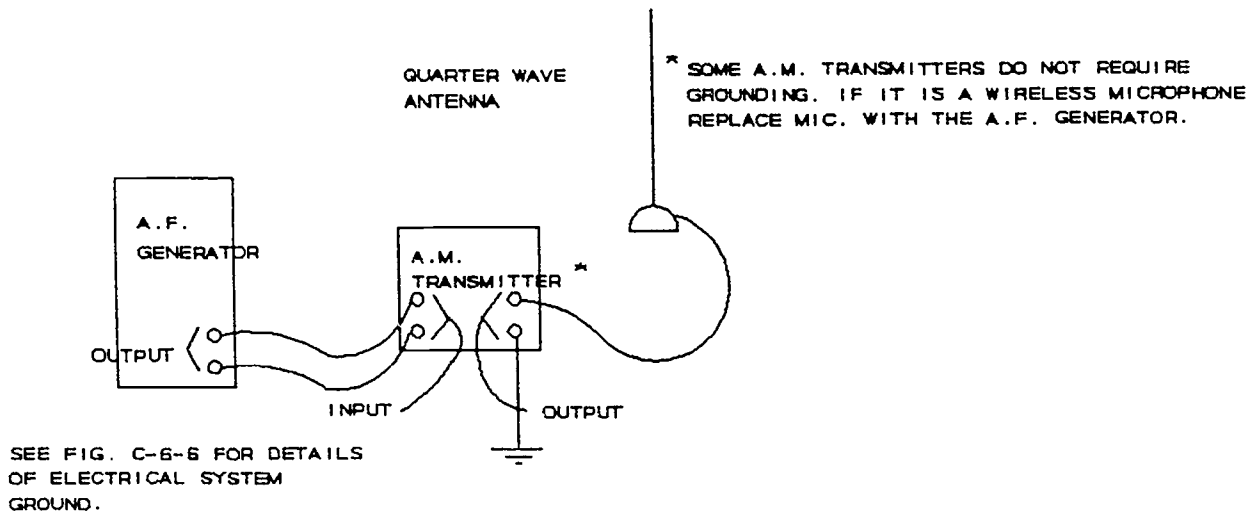

Figure C-6-5
1. Connect the audio frequency (AF) generator, amplitude modulated (AM) transmitter, and the vertical quarter wave (Marconi) transmitting antenna as shown in Figure C-6-5, "A.M. Transmitter Hookup." Also see Figure C-6-6, "Plug for Electrical System Ground." Note that when this plug is inserted into a standard power receptacle, the electrical system ground is utilized.